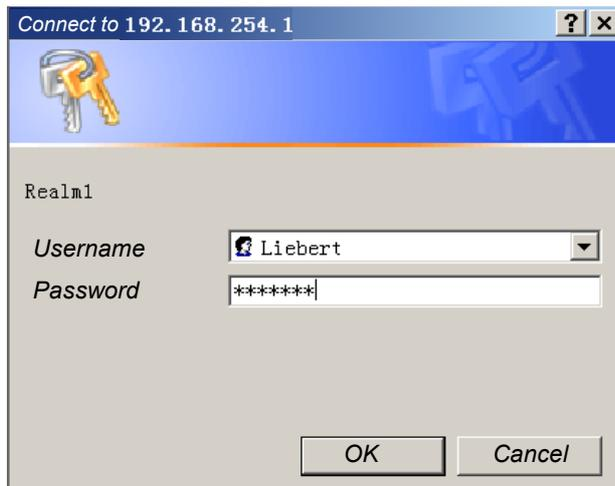

Figure 6-11 Typing user name and password
3. Click the **Access on SNMP** at the left hand of the interface, as shown in Figure 6-11. Type user name 'Liebert' and password 'Liebert' and click the **OK** button to enter the setting interface of configure. Note that the user name and password are case-sensitive.